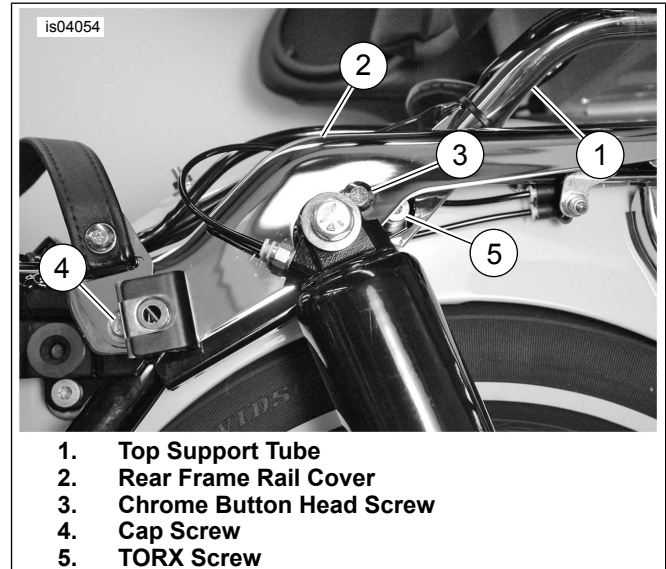

Figure 1. Remove Top Support Tube
4. See Figure 1. Remove top support tube (1).
- a. Remove chrome button head screw (3)
- b. Remove cap screw (4), washer, saddlebag bracket and seat strap.
- c. Reposition rail cover (2) to access TORX® screw (5) holding top support tube (1). Remove screw (5).
8. See Figure 1. Install chrome frame rail covers (2), saddlebag brackets and seat strap. Tighten chrome cover screw (3) to 2.8–4.5 N·m (25–40 **in-lbs**). Tighten the saddlebag bracket cap screw (4) finger-tight only. This bracket may need to be aligned when the saddlebags are installed.